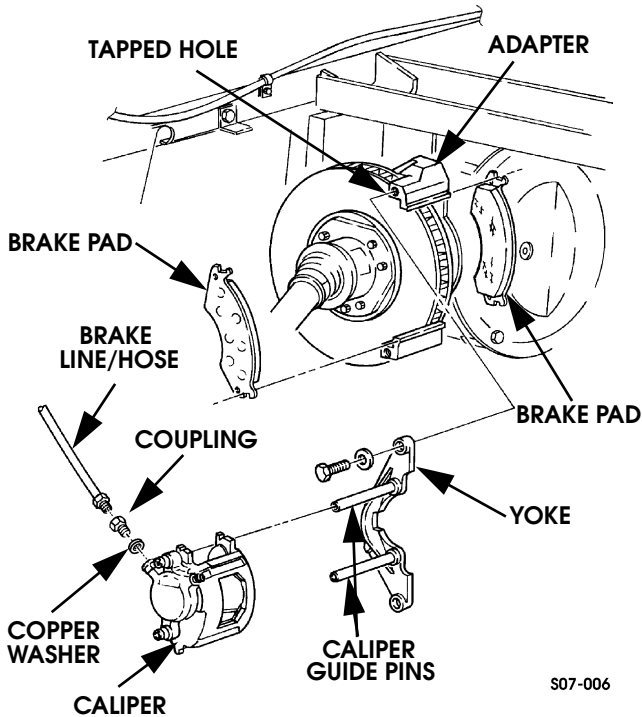

Figure 7-7: Service Brake Components
1. Disconnect brake line from coupling (Figure 7-7).
1. Clean mating surfaces of caliper and adapter (Figure 7-7).
5. Inspect yoke and caliper guide pins for corrosion. Perform step 6 if corroded. If not, perform step 8 (Figure 7-7).
2. Position brake pads on adapter (Figure 7-7).